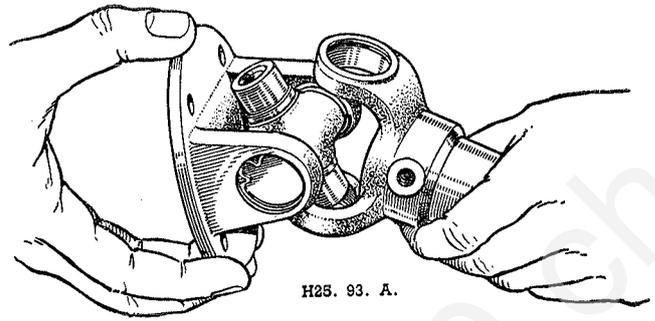

Fig. H.5. Separating the joint.
- (4) Repeat this operation for the other bearing, and the splined yoke can be removed from the spider (see fig. H.5).
- (5) Using a support and directions as above remove the spider from the other yoke.